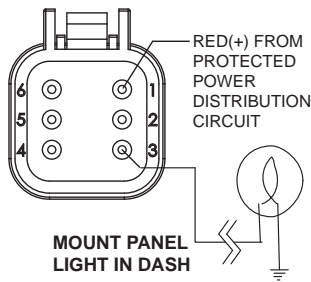

Fig 8.1
- 4) Connect the terminals on the panel light to DOWN NC position on the 6-pin plug and chassis ground, see figure 8.1.